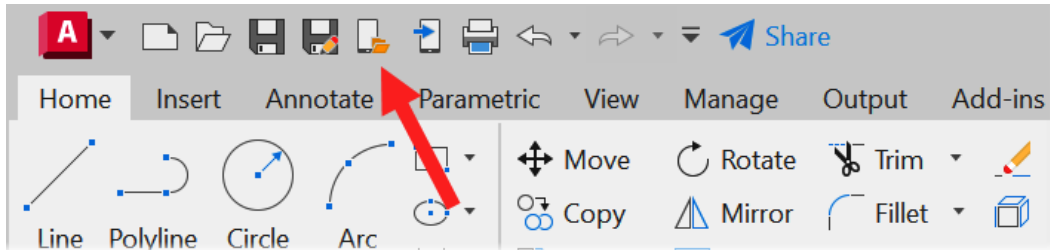

Figure 15.4: The Open From Web & Mobile (OPENFROMWEBMOBILE) icon on the Quick Access Toolbar (QAT)
1. Open the locally saved version of the drawing first. Then, using the **Open From Web & Mobile** (*OPENFROMWEBMOBILE*) command, open up the cloud-based version of the New Office Layout .dwg file. You will find the icon for the *OPENFROMWEBMOBILE* command on the **Quick Access Toolbar (QAT)**, as shown in *Figure 15.4*.